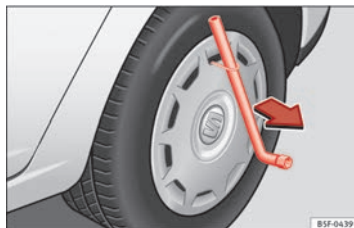

Fig. 169 Remove the wheel cover.
- Remove the wheel cover using the wire hook ⇒ Fig. 169.